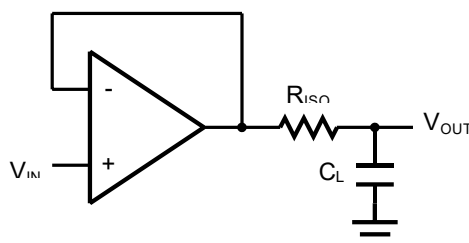
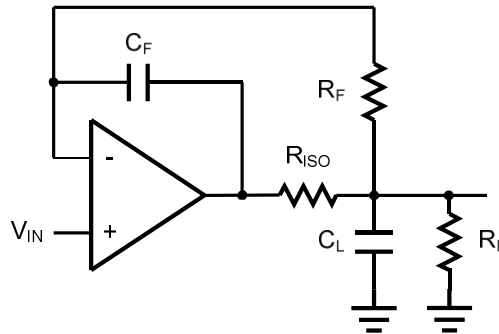

Figure 2. Indirectly Driving a Capacitive Load Using Isolation Resistor
Figure 3. Indirectly Driving a Capacitive Load with DC Accuracy
The HG805X family is optimized for bandwidth and speed, not for driving capacitive loads. Output capacitance will create a pole in the amplifier's feedback path, leading to excessive peaking and potential oscillation. If dealing with load capacitance is a requirement of the application, the two strategies to consider are (1) using a small resistor in series with the amplifier's output and the load capacitance and (2) reducing the bandwidth of the amplifier's feedback loop by increasing the overall noise gain. Figure 2. shows a unity gain follower using the series resistor strategy. The resistor isolates the output from the capacitance and, more importantly, creates a zero in the feedback path that compensates for the pole created by the output capacitance.
The circuit in Figure 3 is an improvement to the one in Figure 2. RF provides the DC accuracy by feed-forward the VIN to RL. CF and RISO serve to counteract the loss of phase margin by feeding the high frequency component of the output signal back to the amplifier's inverting input, thereby preserving the phase margin in the overall feedback loop. Capacitive drive can be increased by increasing the value of CF. This in turn will slow down the pulse response.